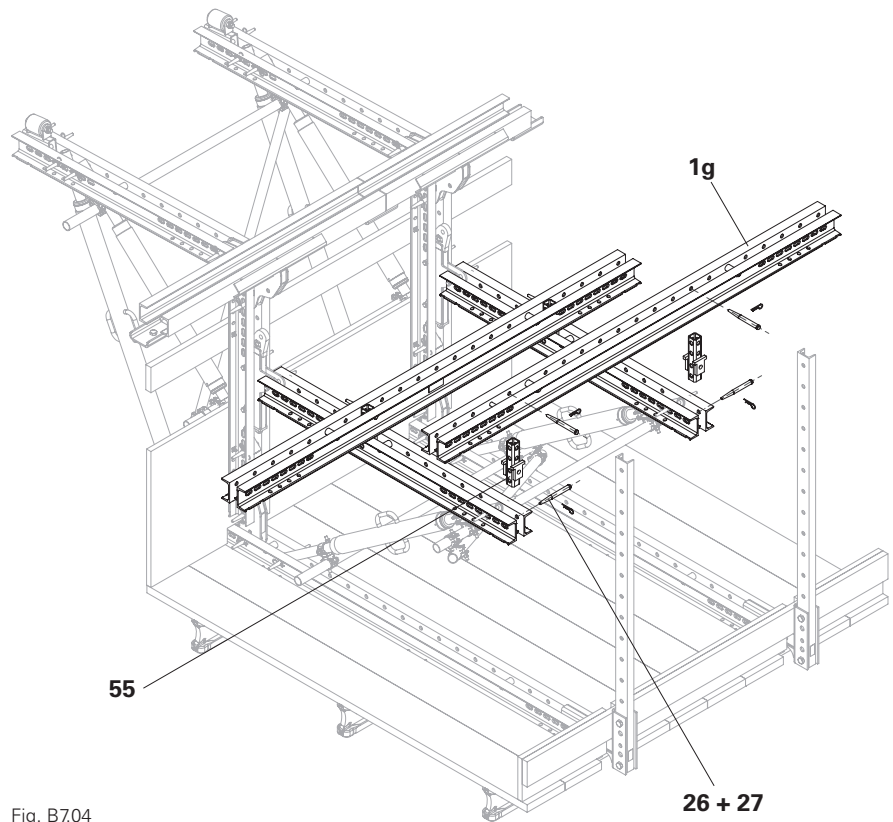

Fig. B7.04
1. Mount 4x Cross Connectors VARIOKIT (55) using 1x fitting pin  $\varnothing$  21 x 120 (26) respectively in the Steel Waler Universal SRU U120 of the platform support and secure with cotter pins 4/1 (27).
2. Mount 2x Steel Waler Universal SRU U120 (1g) with 1x fitting pin  $\varnothing$  21 x 120 (26) respectively per Cross Connector VARIOKIT (55) and secure with cotter pins 4/1 (27).
- (Fig. B7.04)